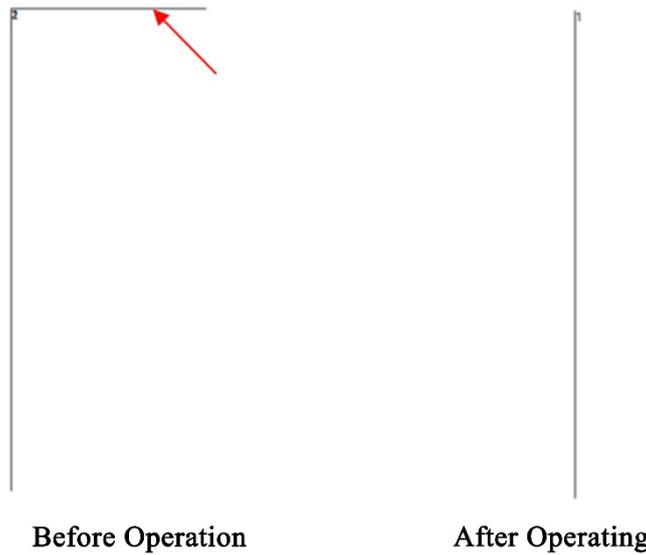

Fig. 5.11.2 Schematic Diagram of Deleting Short Lines
③ After clicking the OK button, the short line in the canvas will be deleted. The operation diagram is shown in Fig. 5.11.2 below